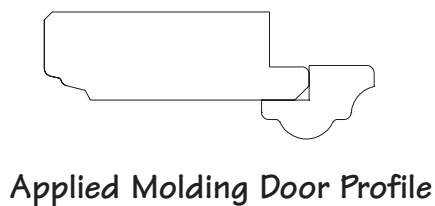

Figure 2
- 1/2" long Screws for Applied Molding Doors (bagged separately), see Figure 2
**CAUTION:** Do not use 1/2" long screws on White Thermo Foil Doors. The supplied 1/2" long screws (bagged separately) should only be used on Solid Wood door styles with Applied Molding (see Figure 2).